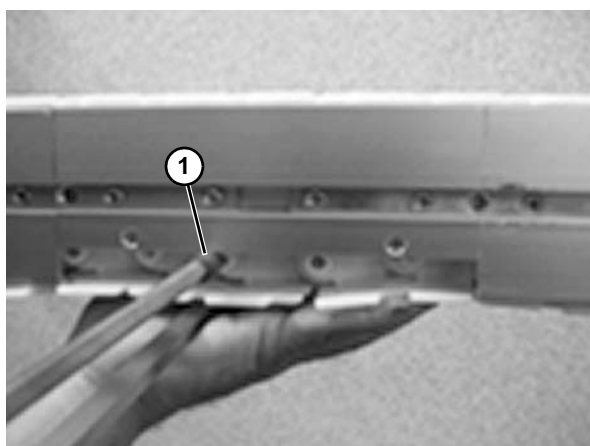

Figure 58
4. Remove excess links and use the chain tool (**Figure 58, item 1**) to put the chain back together again.